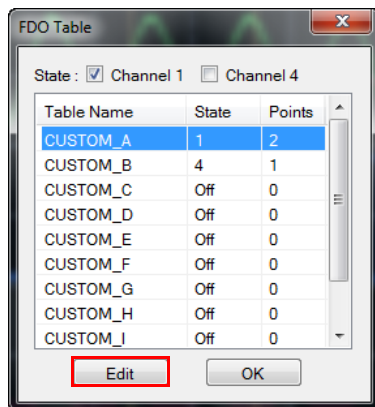

Figure 2-74 Edit button
- 4 To display the custom FDO table data dialog, select the desired custom FDO table name, and select **Edit** as shown in Figure 2-74, or double-click or double-touch the desired custom FDO table name.